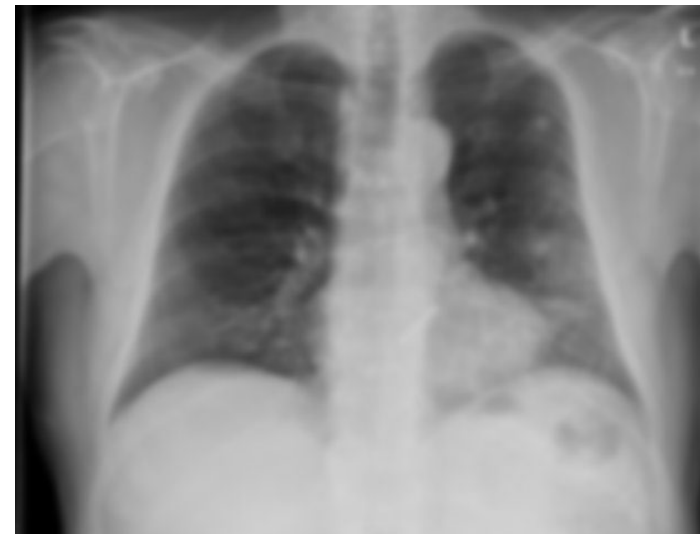

Fig. 30 – Chest X-ray. Top: high resolution. Bottom: Low resolution
- The spatial resolution of an image **quantifies the sharpness of the signal in the image** (Fig. 30).